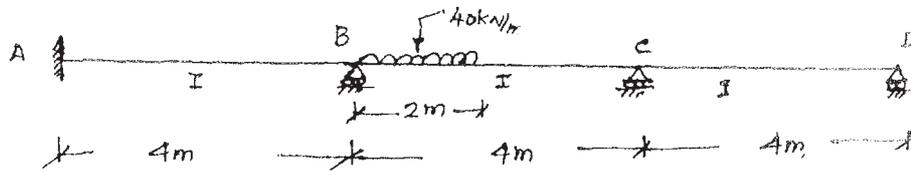

Fig. 4
13. (a) The continuous beam shown in Fig. 4 has a constant moment of inertia of  $15,000 \text{ cm}^4$ . The supports are initially at the same level. If the support sinks by  $1 \text{ cm}$  after loading, analyse the beam. Use slope deflection method.  $E = 200 \text{ kN/mm}^2$ .